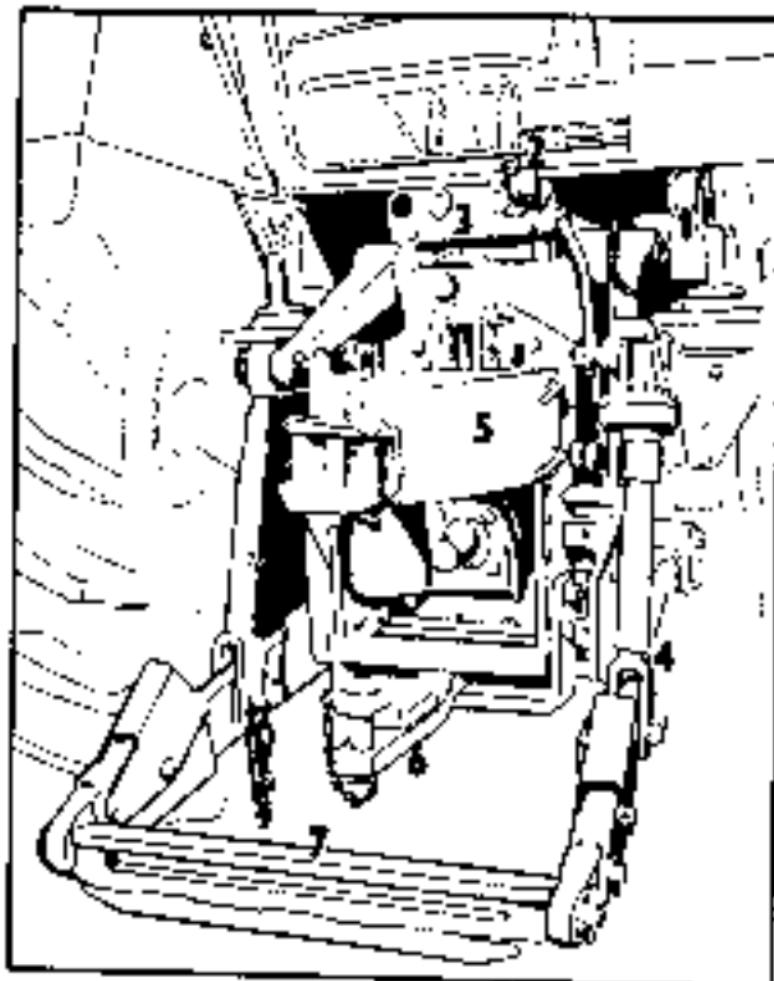

Fig. 11
- Seven-pole plug socket (Fig. 11/1) serves to connect the electrical equipment of the trailer or attached implement
- Air coupling hose (Fig. 11/2) interconnects the air system of the trailer or attached implement;
- Quick couplings (Fig. 11/3) serve to attach trailer hydraulic cylinders.